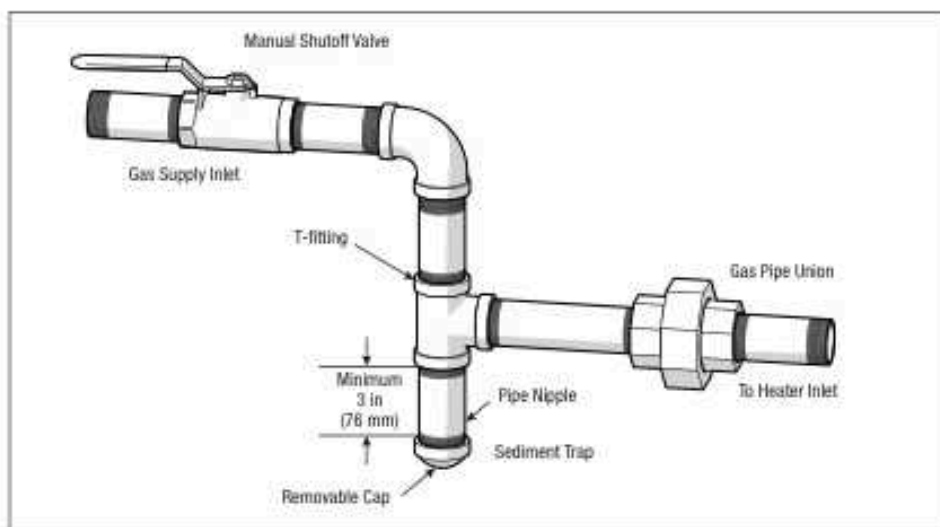

Figure 8. Manual Shut-off Valve and Sediment Trap
- Install a sediment trap and union ahead of the gas controls and outside the heater body. See Figure 8.
Do not use flexible appliance connectors on any gas connections unless the connector is CSA approved for outdoor installation, and is marked with the BTUH capacity (which must be equal to or greater than the heater rated input) and the type of gas (Natural or LP). Also, any flexible connectors, such as CSST buried underground must be certified for underground installation and meet all applicable codes. Please note, use of flexible connector still requires the installation of a sediment trap per NFPA 54. See Figure 8.